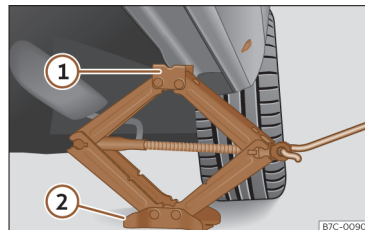

Fig. 208 Crossbar: mounting the jack on the vehicle.
- Turn the jack crank handle, located below the crossbar support point, to raise it until the tab **1** >>> **Fig. 208** is below the housing that is provided.